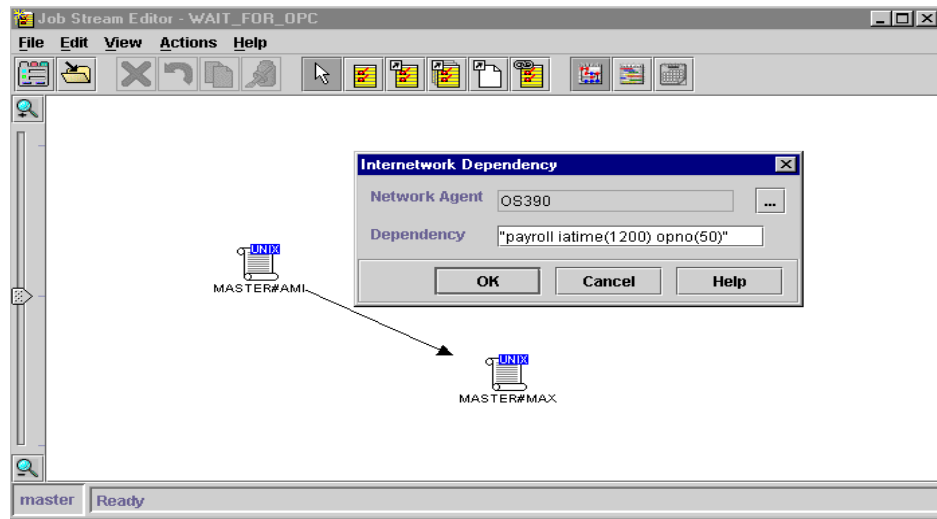

Figure 213. Define the internetwork dependency
3. Define the OPC parameter in the dependency field as shown in Figure 213 on page 347.